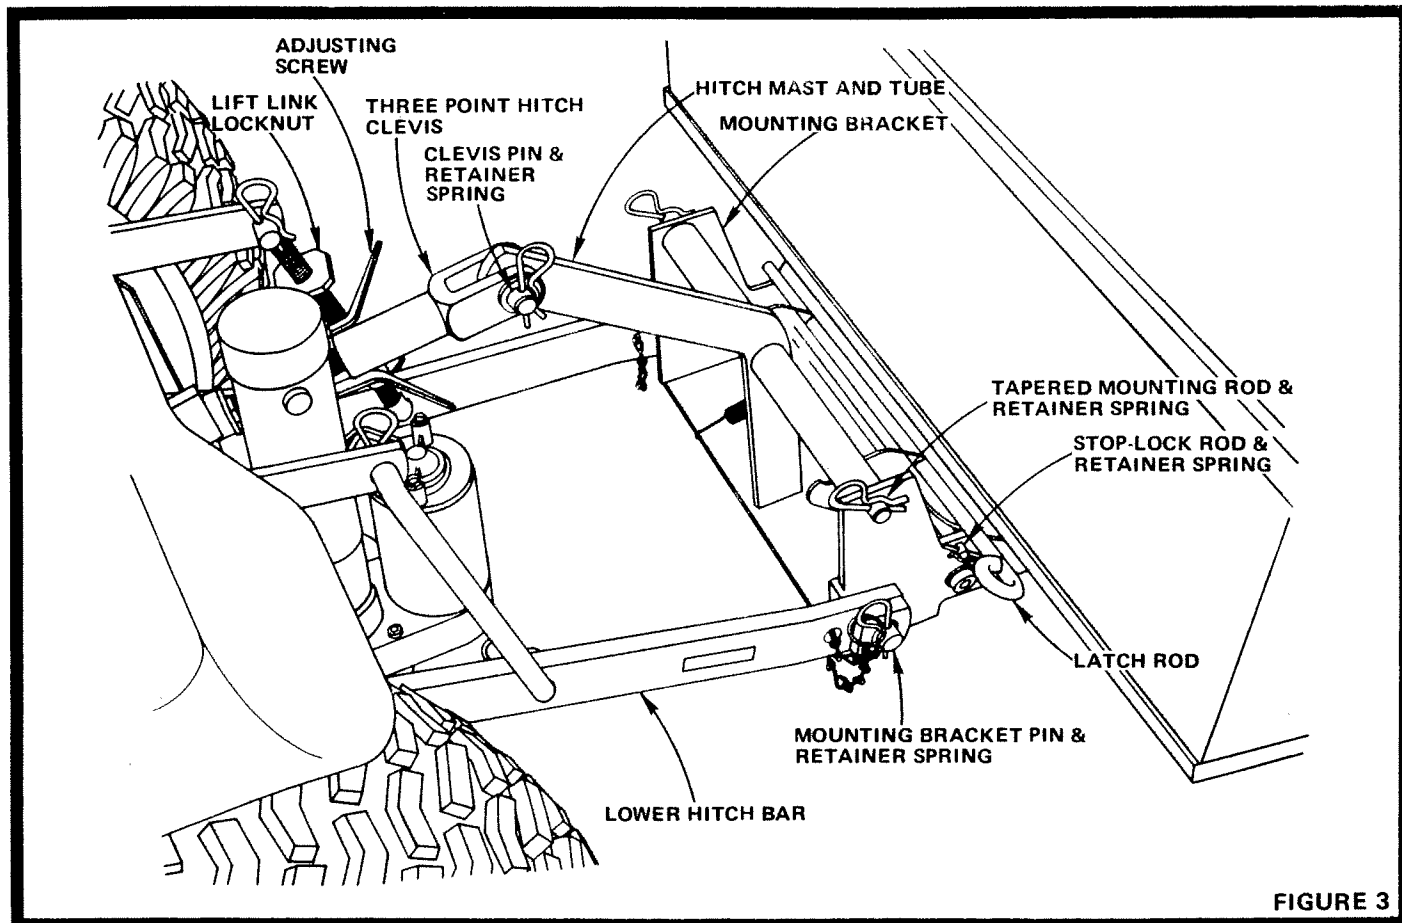

FIGURE 3
7. Position Hitch Mast and Tube in Mounting Bracket (Fig. 3) with end of Hitch Mast (without hole) inserted into slot of Mounting Bracket. Line up holes in Tube with holes in Mounting Bracket, insert Tapered Mounting Rod and secure with Retainer Springs.
- a. Loosen Lift Link Locknut (Fig. 3).
1. Leave the Stop-Lock Rod in shipping position and make sure the two smallest Retainer Springs are placed as shown (Fig. 3) to prevent interference in dumping Tote Box.
2. Pull Latch Rod toward tractor to dump box (Fig. 3). A rope (Owner furnished) can be attached to the Latch Rod so that box can be dumped without dismounting from tractor.
2. Remove Retainer Spring from Clevis Pin and remove Pin (Fig. 3).